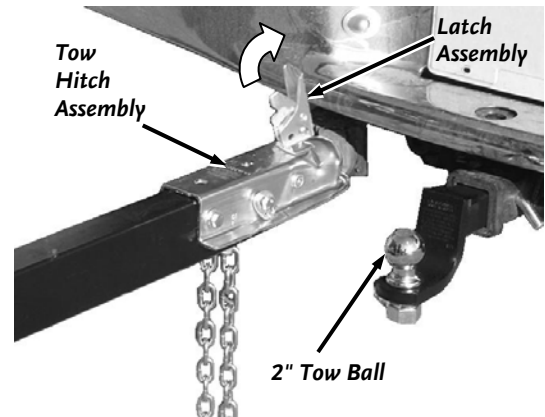

Figure 67
1. Pull the latch assembly on the Tow Hitch Assembly up and into the open position. Position the hitch coupler of the Chipper over and onto the tow vehicle's tow ball (must be a 2" tow ball) (**Figure 67**).